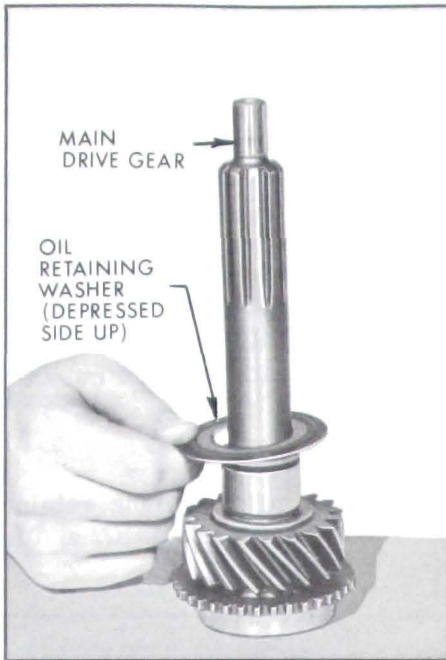

Figure 4-100—Installing Oil Retaining Washer
19. Install oil retaining washer on main drive gear, depressed side up. See Figure 4-100.